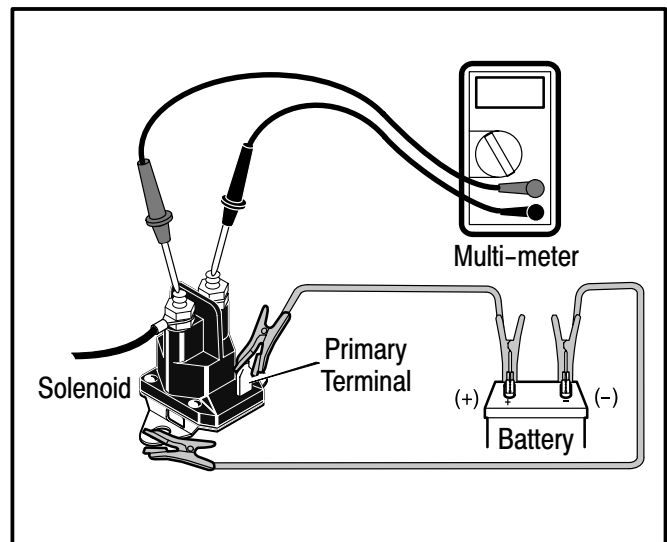

FIGURE 20: CHECK GROUND & CONTINUITY BETWEEN THE TERMINALS
4. If there is resistance between the coils, then see if the solenoid will click. Using a lead wire with clips, connect one end of the lead wire to the positive post of the battery and the other end of the lead to the solenoid primary terminal. (Figure 20)
5. If the solenoid does not click, then check the ground between the solenoid and the frame. With the first lead wire still connected, attach another test lead to the negative post of the battery and attach it to the base of the solenoid. If the solenoid clicks, then there is a grounding problem. Remove the solenoid and sand away any rust or paint build-up that may be interfering with the ground. If the solenoid still does not click, then it is safe to assume that the solenoid is bad. Remove and replace with a good solenoid. (Figure 20)
6. If the ground is good and the solenoid clicks, it does not necessarily mean that the solenoid is good. A continuity check must be made across the top two terminals while the solenoid is energized. (Figure 20)